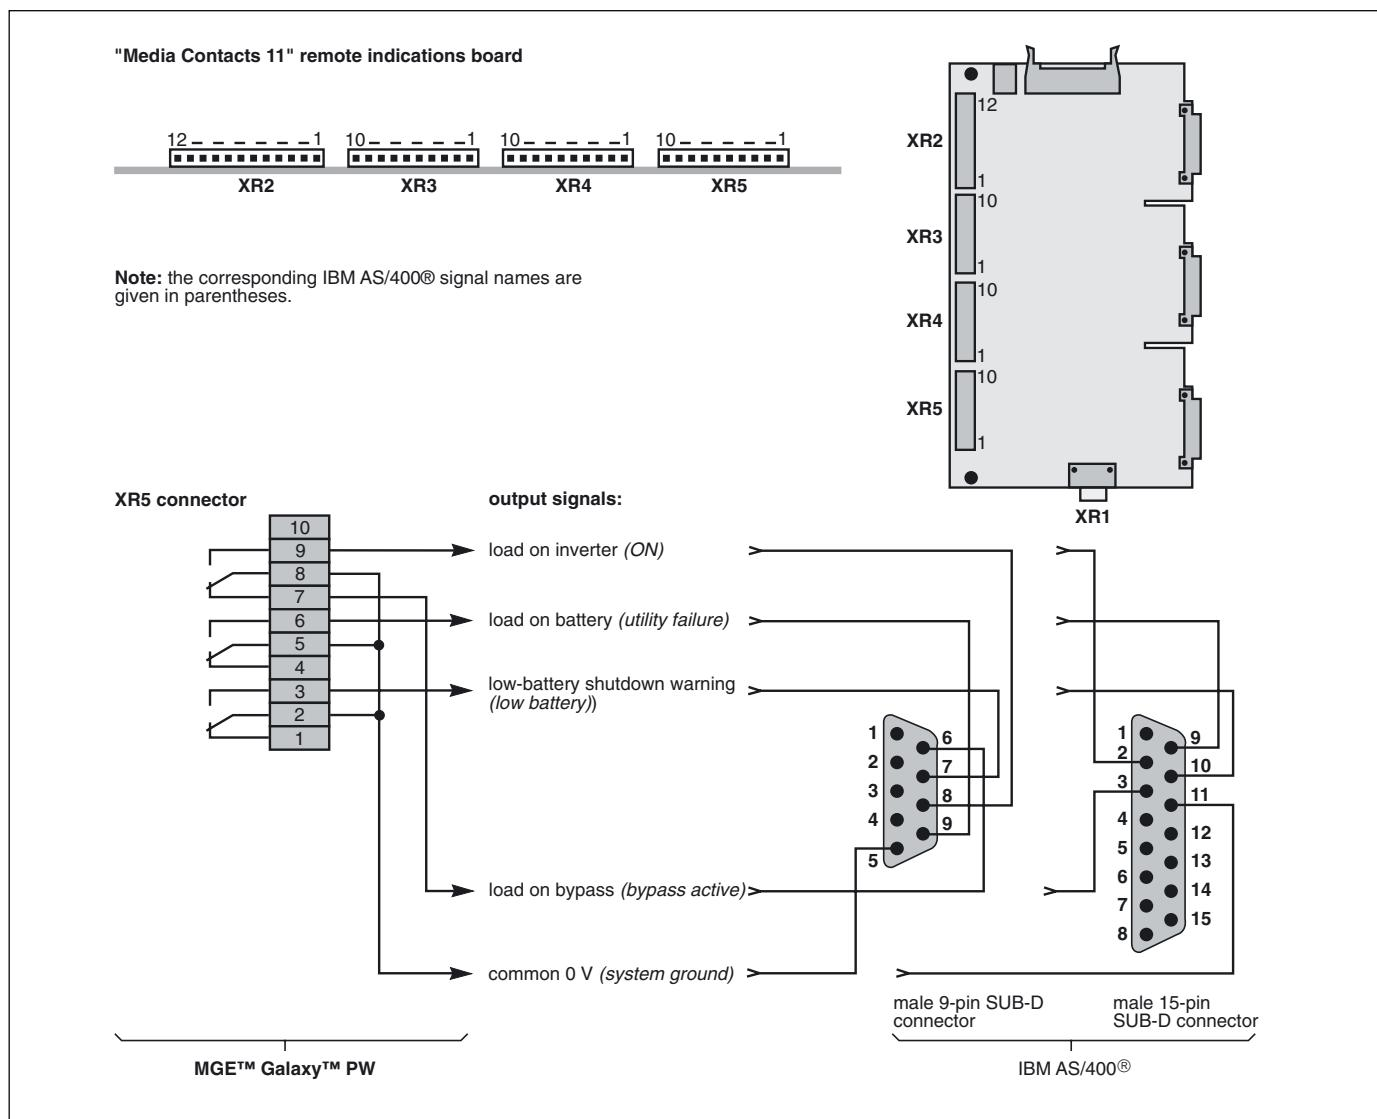

Fig. 35
- see figure 35 below for the wiring diagram. A five-wire cable (not supplied) is required;